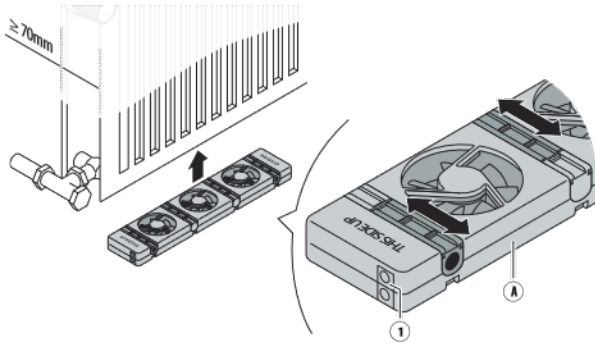

Fig. 1 - Position the SpeedComfort (A).
1. Make sure that the **SpeedComfort (A)** faces upwards and that the **female connectors (1)** point towards the wall socket (see fig. 1).